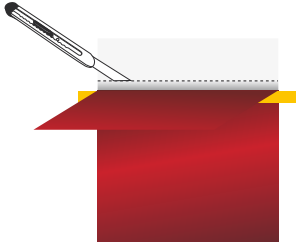

Figure 06
- › Peel off 10 cm (4 in) of the liner. (FIG. 06)